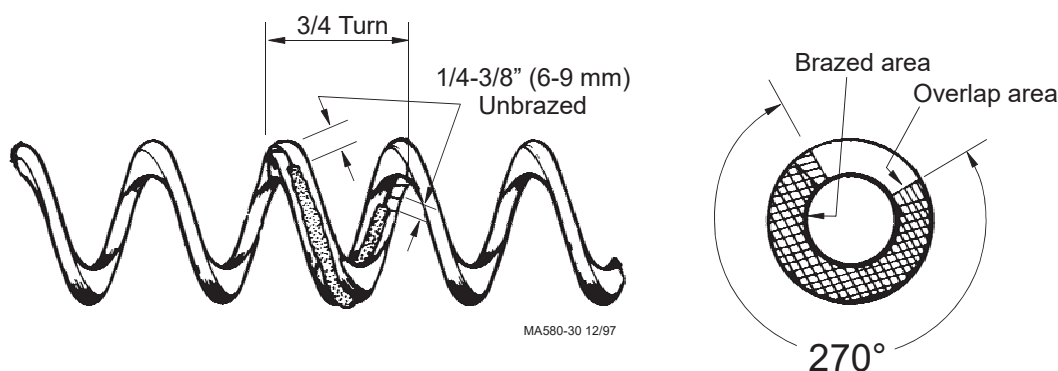

Figure 17. Auger Brazing information.
3. Braze the inside of the joint, joining the surfaces to within 1/8" to 1/4" (3 mm to 6 mm) of each end. **THIS IS CRITICAL!** See Figure 17.